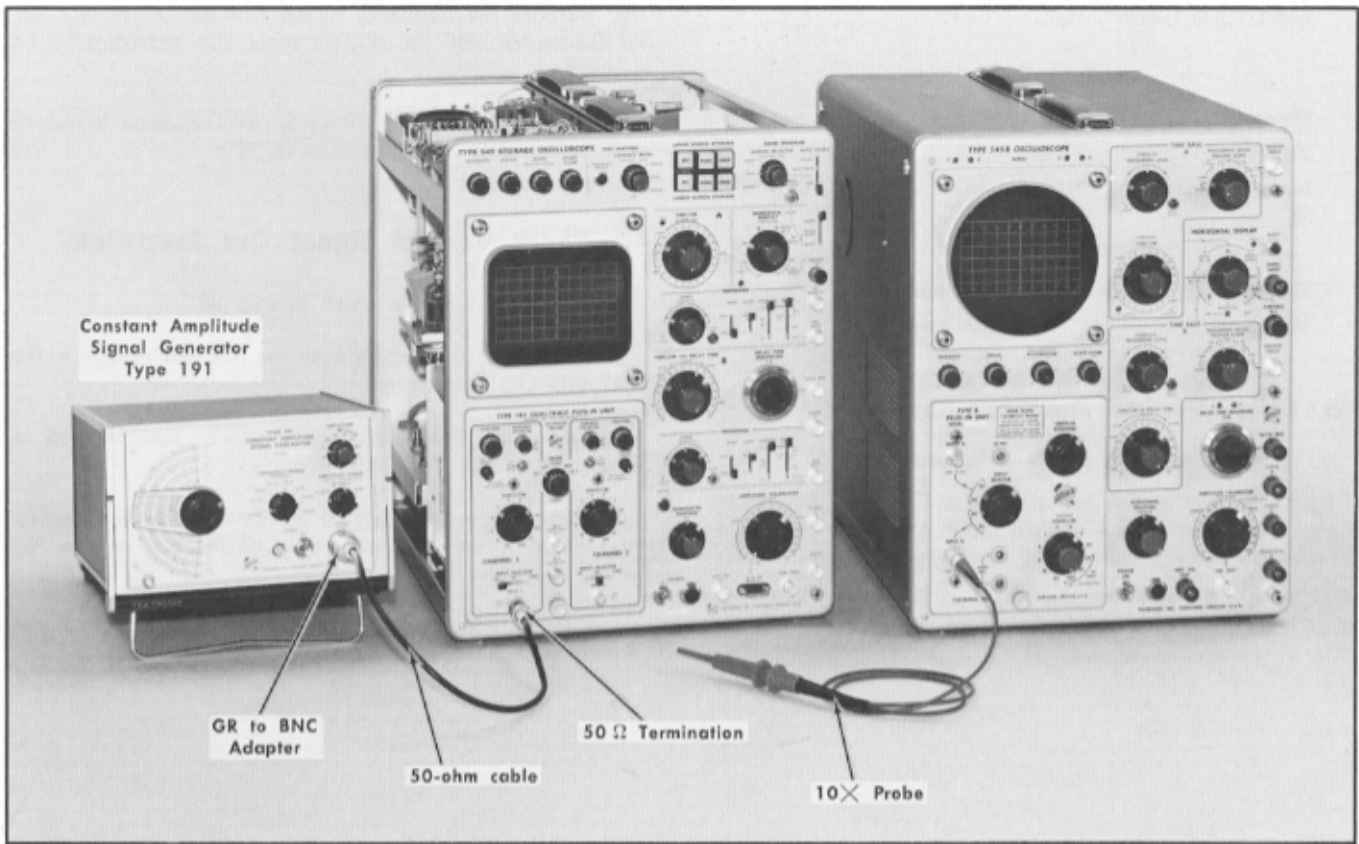

Fig. 6-40. Equipment setup for steps 46 and 47.
- a. Equipment setup is shown in Fig. 6-40.